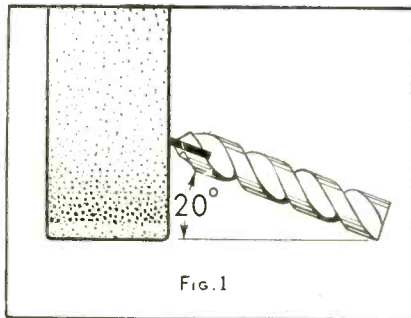

FIG. 1
1. Bring the drill against the side of the grinding wheel at a 20 degree angle as shown in *Fig. 1*. This 20 de-